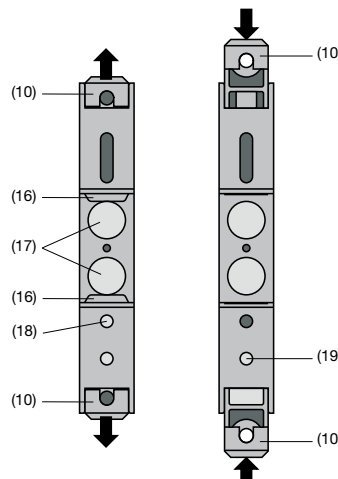

Fig. 8. Rear of device.
The while pressing the latch (18) in the base of the device (Fig. 8, left), pull out the transmitter securing brackets (10). Now secure the alarm unit to the wall or panel using two 4 mm diameter screws.
To return the brackets to their original positions, the latch (19) in the base of the device has to be depressed before applying pressure to the securing brackets (10) (see Fig. 8, right).